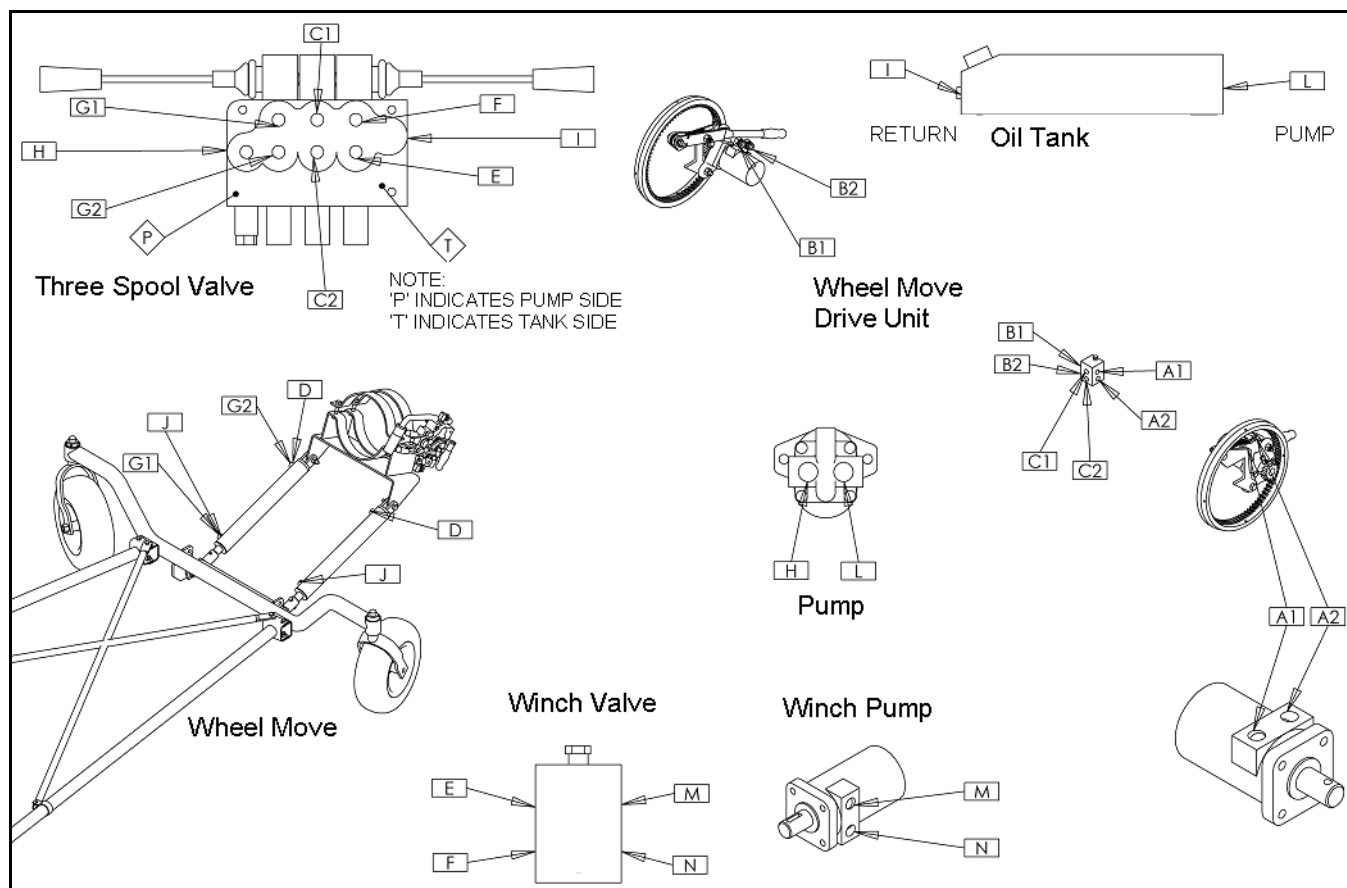

Figure 3.37
Note: Refer to Table 3.10 for the quantity of each component used and Figures 3.37 and 3.38 for hydraulic hose assembly.
2. Attach hydraulic fittings (1) to the wheel move hydraulic cylinders.
3. Connect each hose as labeled in Figure 3.37 and Table 3.10. For example, connect hydraulic hose A1 in the table to each of the locations marked A1 in Figures 3.37 and 3.38.